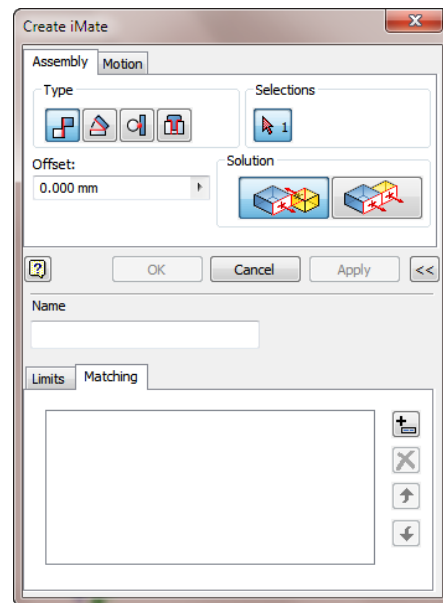

Figure 17-42 The **Create iMate** dialog box
4. Enter **insert_1** in the **Name** edit box and then choose the **Matching** tab; the **Match List** area is displayed, see Figure 17-42.
6. Enter **insert_2** in the edit box displayed, refer to Figure 17-42.
3. Enter **insert_2** in the **Name** edit box. Note that this is the name you entered in the **Match List** area of the **Create iMate** dialog box while setting the iMate of the shaft, refer to Figure 17-42.